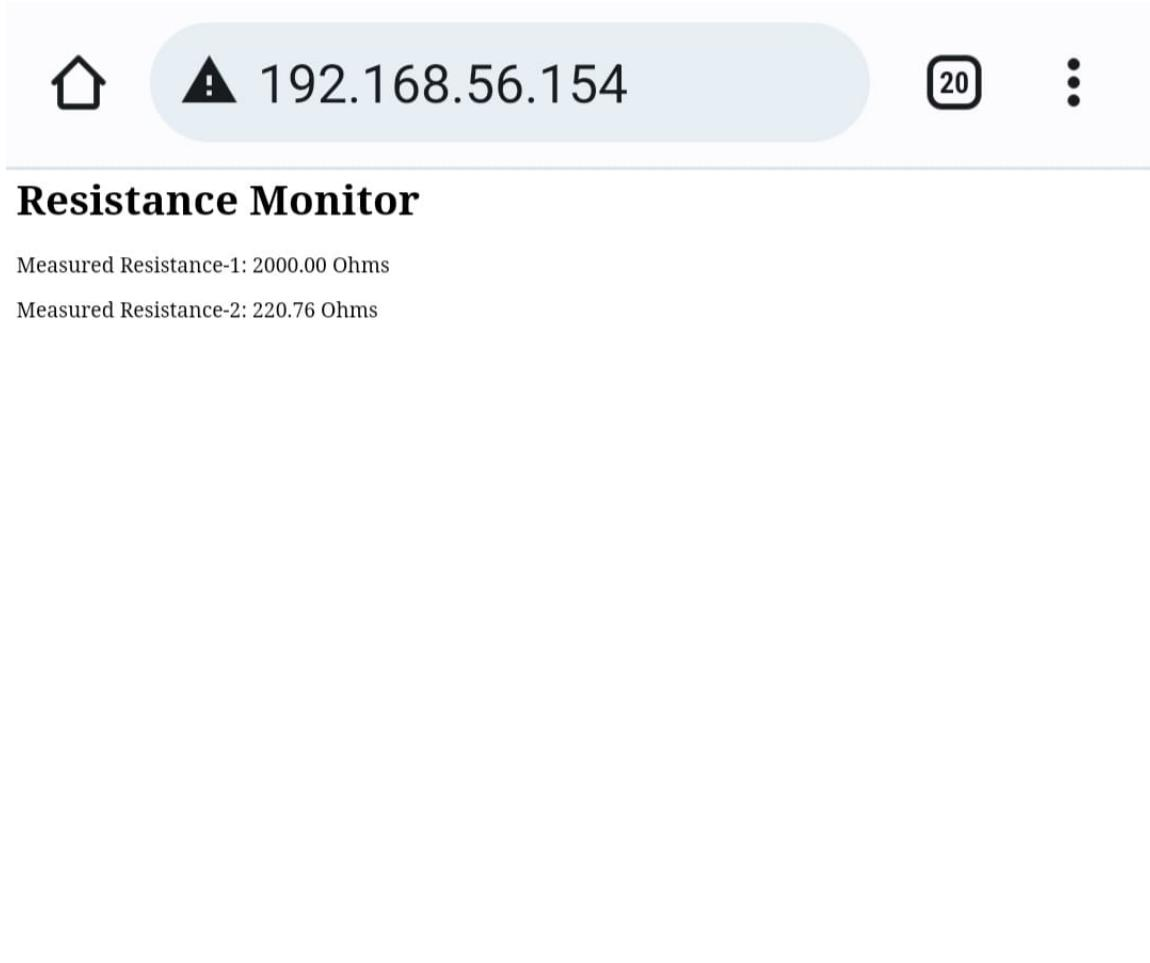

Figure 8.1: Website
1.4.8. In the website loaded by the IP address of vaman-ESP the two unknown resistances are displayed as shown in Fig. 8.1